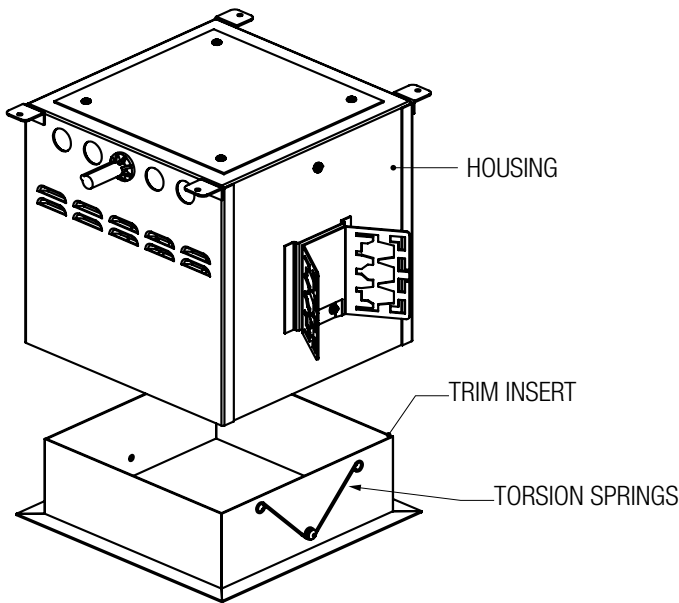

FIGURE 4
13. Once housing is installed, securely in place and ceiling is finished simply compress the TORSION SPRINGS on the TRIM. Slide the TORSION SPRINGS into the brackets located on each side in the inner housing and push into housing. The torsion spring will secure the TRIM in place. *See Fig 4*.